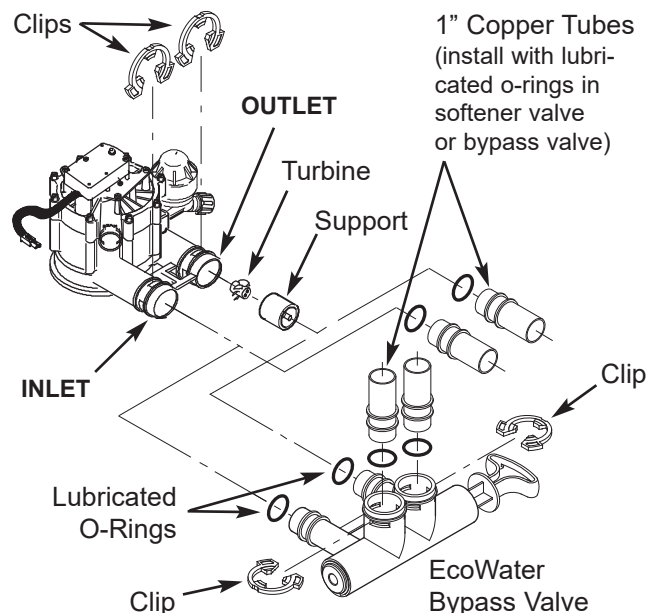

FIG. 10
- If installing a single bypass valve, push the bypass valve, with lubricated o-ring seals in place, into the valve inlet and outlet ports (See Figure 10).
- If installing a 3-valve bypass system, slide copper tubes, with lubricated o-ring seals in place, into the valve inlet and outlet ports, respectively (See Figure 10).